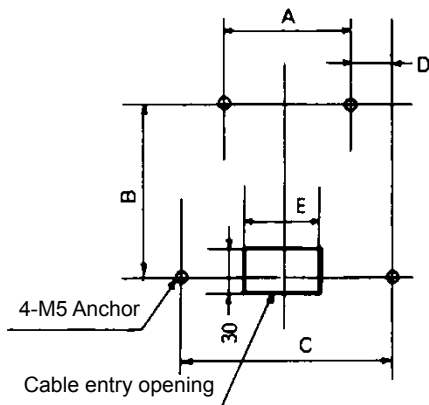
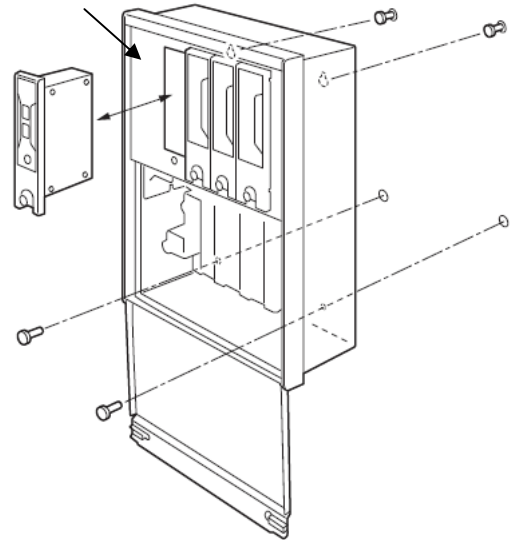

Figure 7. Mounting Layout
Figure 9. Installation
- (1) Refer to Figure 7 and Table 3, and cut four mounting holes in the wall. This gas alarm system has cable openings on its rear and bottom. When using the bottom cable opening, it is not necessary to cut a hole in the wall for cable entry, but a wall cut must be made when using the rear cable opening.
- (2) Install wall anchors into each of the four wall mounting holes, and screw two bolts into the two top wall anchors.
- (3) Remove the alarm and indicator units covering the case's upper mounting holes. Hang the case on the two top bolts (step 2) by sliding these bolts through the case's upper mounting holes. Screw two bottom bolts into the two lower anchors. For 15-point type systems, remove the metal plate from the case as shown in Figure 9.
- (4) Firmly tighten all four bolts, and connect and install the removed alarm and indicator units into the case.